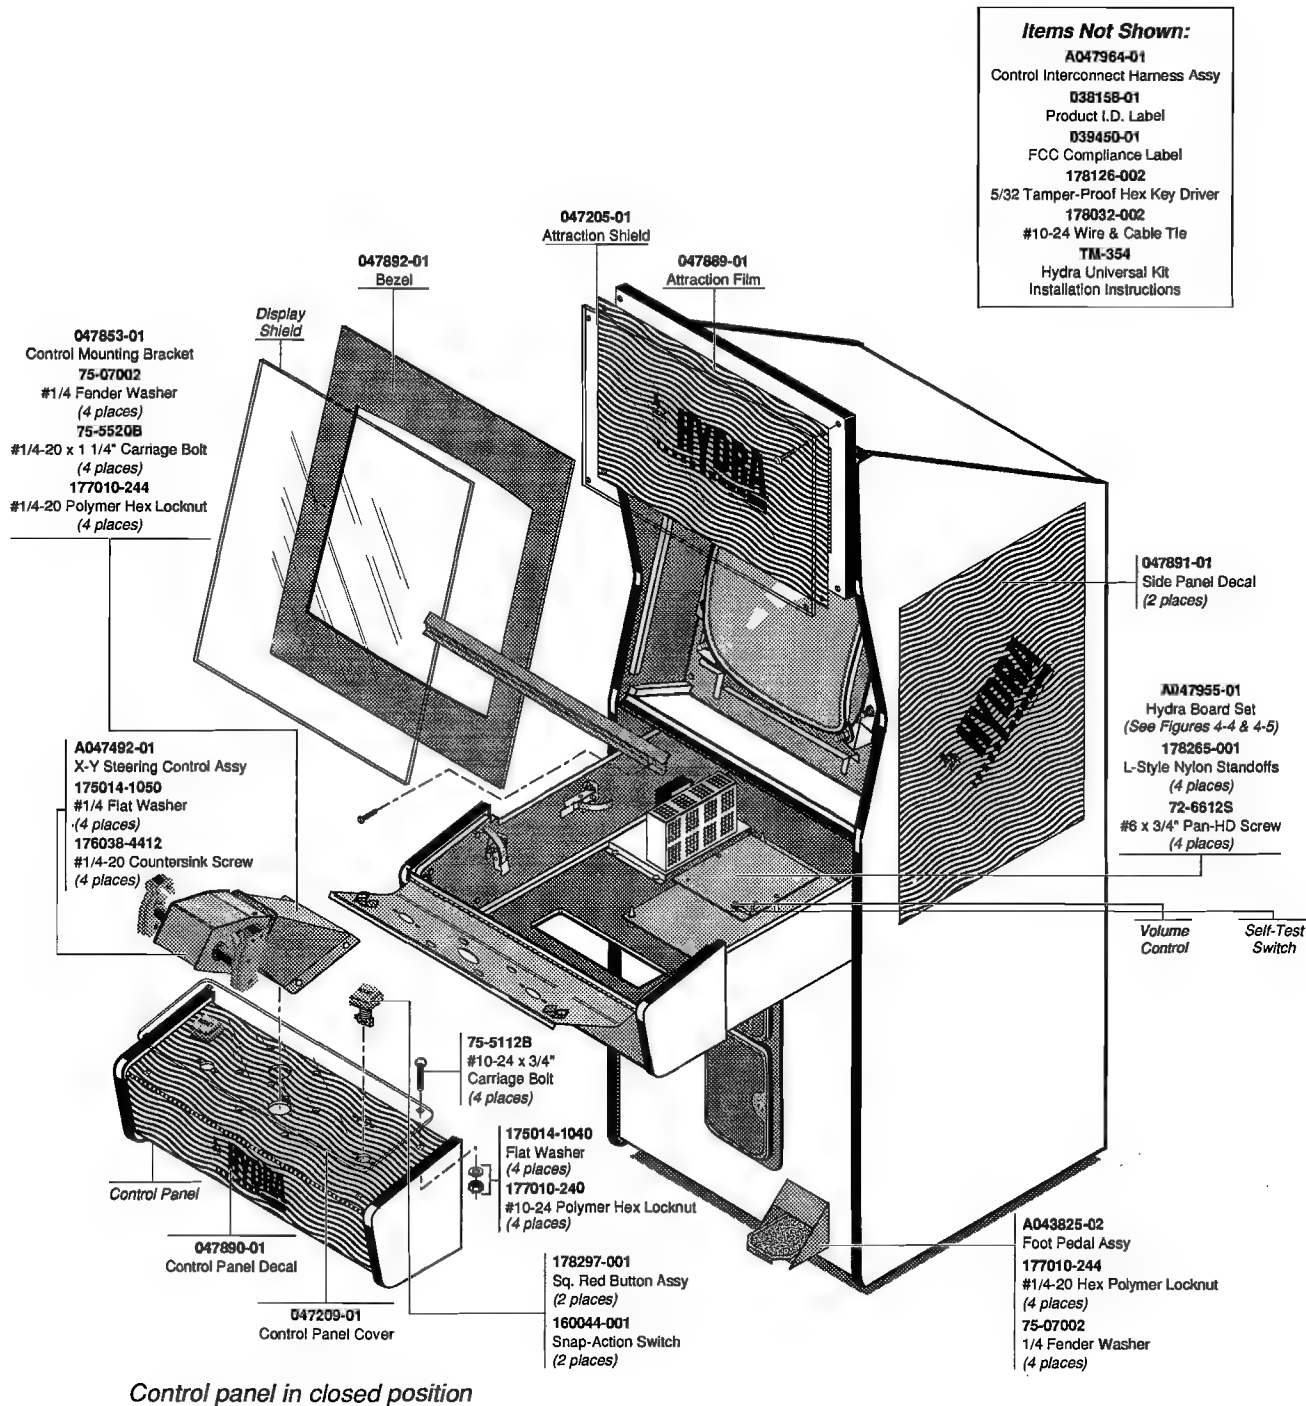

Figure 1-1 Hydra Kit Parts Installed in Cabinet
9. Install the buttons and X-Y steering control. (See Figure 1-1.)
The kit parts are shown assembled in a cabinet in Figure 1-1.
Find the side panel decals. Wet the left and right side panels of the cabinet with slightly soapy water. Then position the decals as shown in Figure 1-1. Remove any wrinkles in the artwork using a squeegee. Allow the sides to dry.
Find the Hydra attraction shield and the attraction film. Using the existing shield as a template, cut the shield and film to size, if necessary. Install them on the cabinet as shown in Figure 1-1.
Install this boost button (one of two) in the upper left and upper right corners of the control panel, as shown in Figure 1-1.